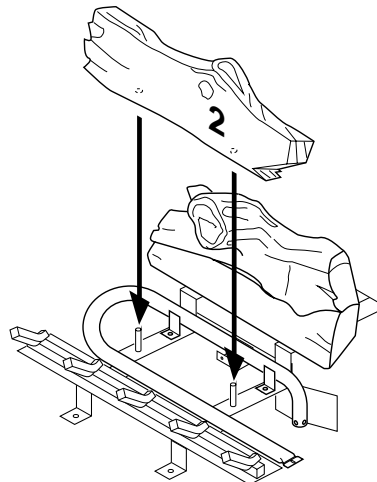

Figure 46 - Installing Log No. 2
3. Rest log #2 (large front log) on the pins on the front part of the grate (see Figure 46).